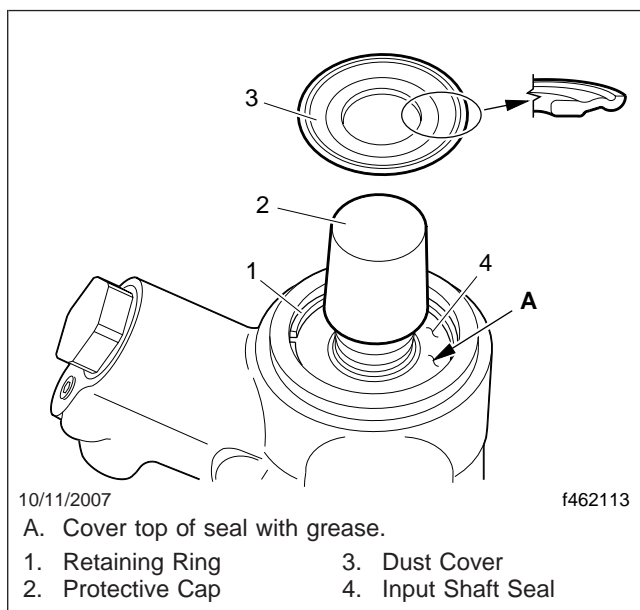

Fig. 3, Dust Cover Installation
Cover the input shaft with the tip of a glove finger or tape (similar to the protective cap shown in Fig. 3) in order to protect the new input shaft seal during installation. Failure to cover the input shaft during installation of the input shaft seal could cause damage to the seal.
15. Install the dust cover, making sure the outer lip of the cover curves upward. See Fig. 3.